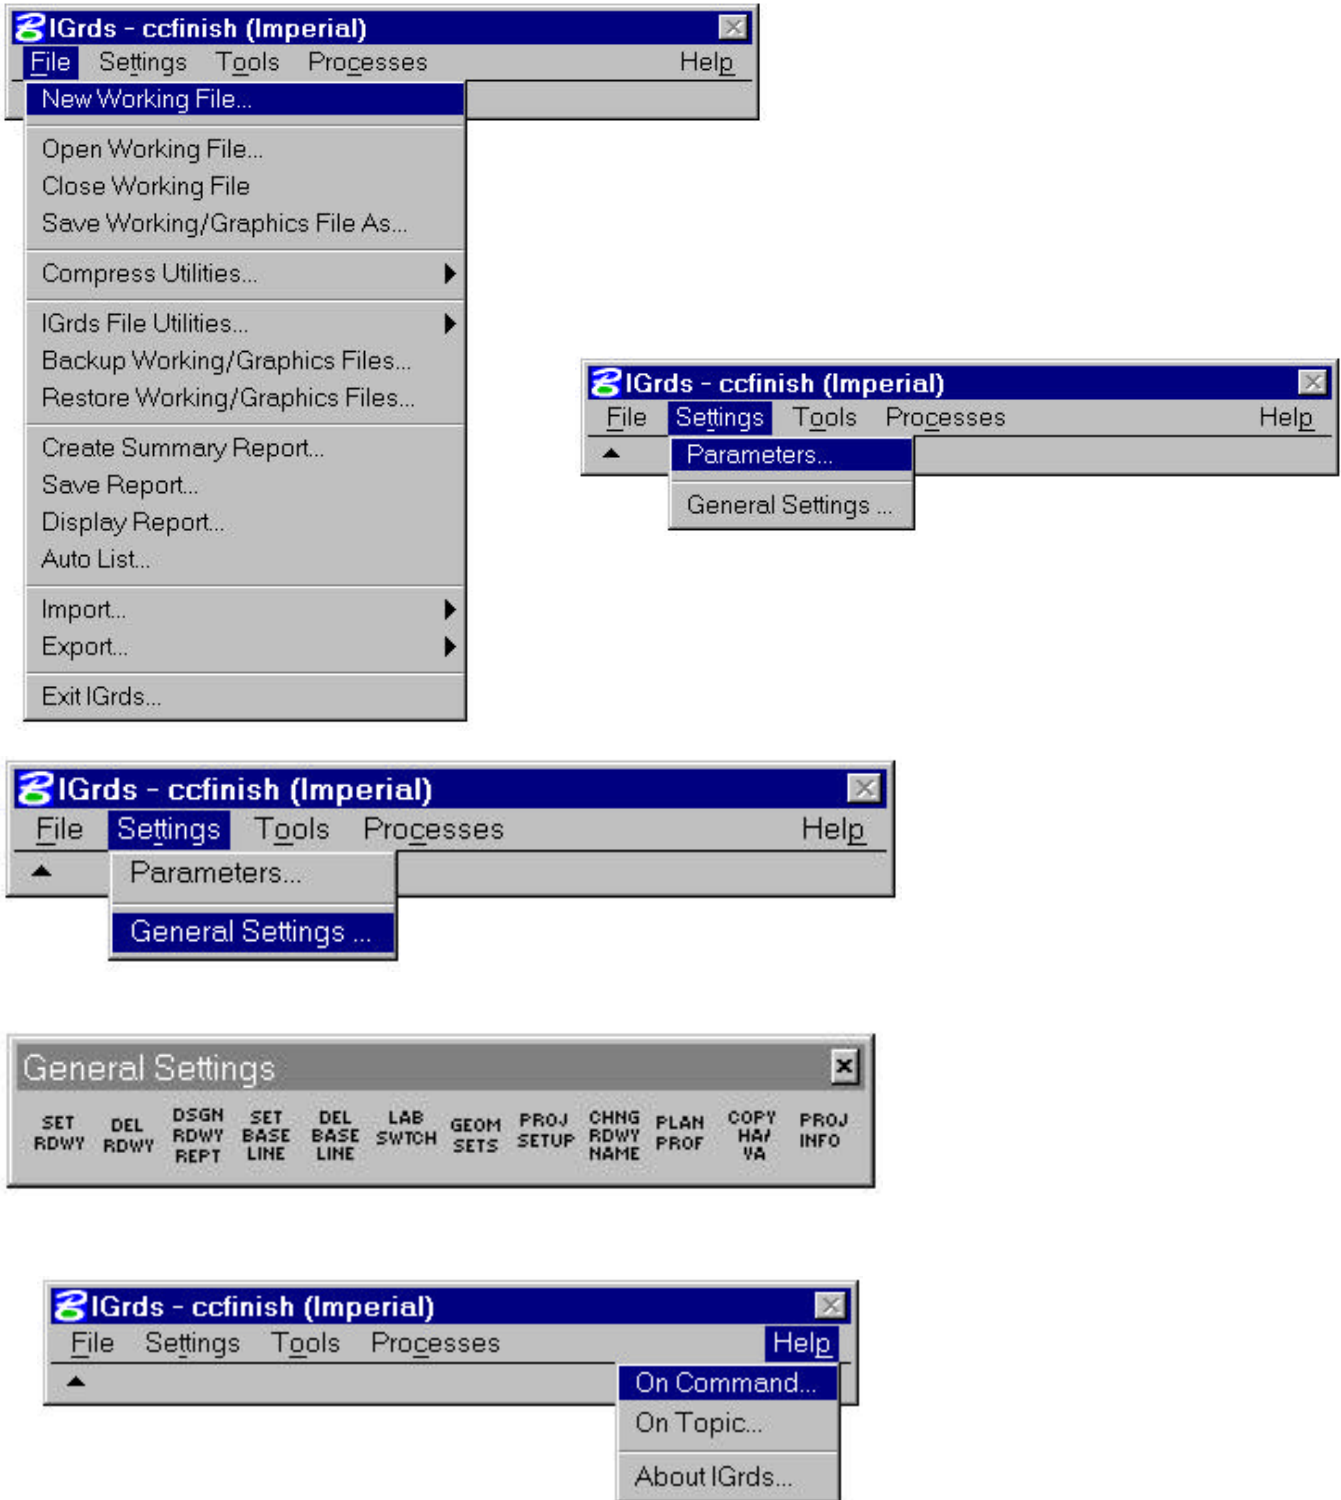
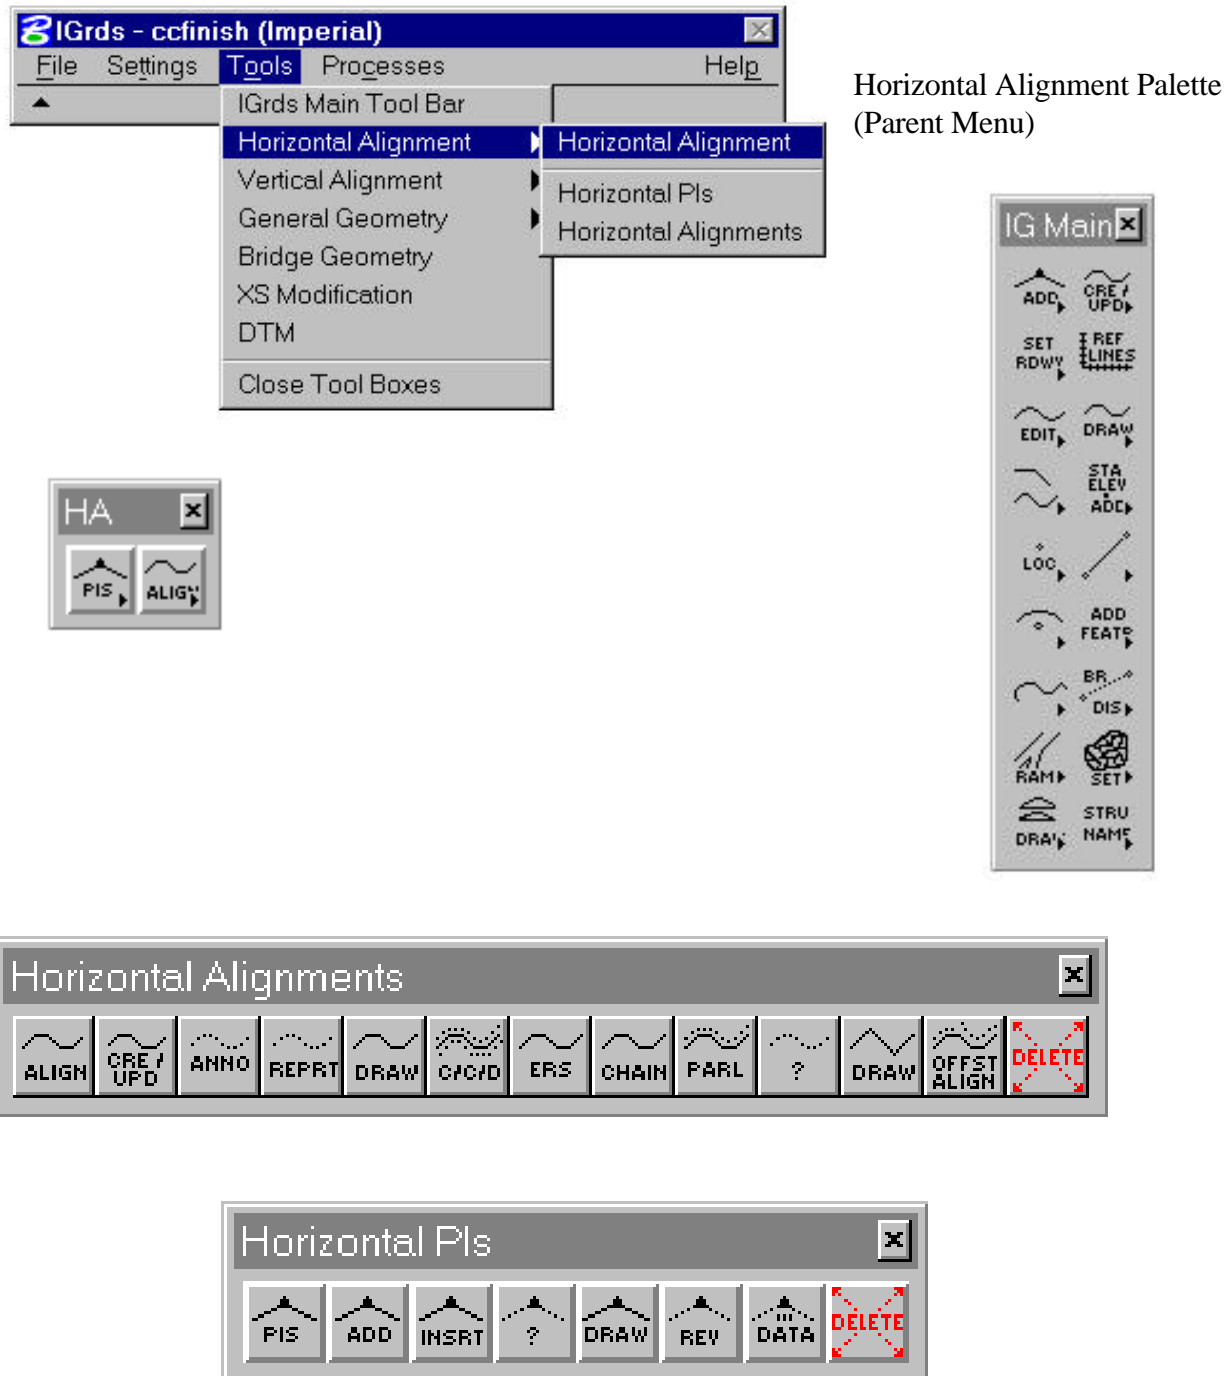

Figure 1-4
Figure 1-5
Figures 1-4 through 1-12 illustrate the available paths. Notice that Figures 1-5 through 1-7 and 1-10 through 1-12 relate to Tool Commands which can be accessed via an alternate path using the IGrds Main Palette.
- Easy to follow pathways (and easy recovery if you stray). See Figures 1-4 through 1-12.